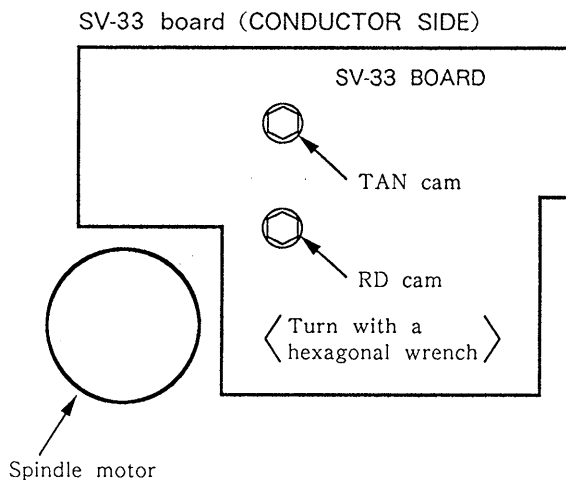

Fig. 8-11.
- 1) Turn the TAN cam on the bottom (See Fig. 8-11.) with a hexagonal wrench.